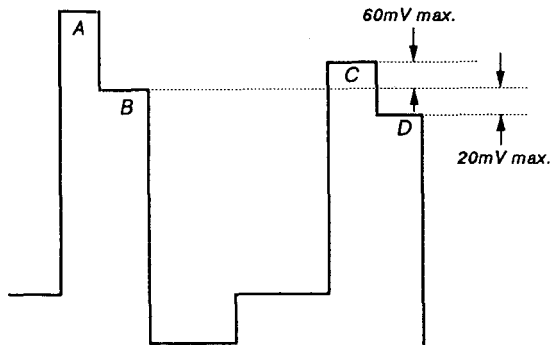

Fig. 18
- 4) Adjust **R-Y LEVEL PAL** so that the tops of the waveform line up as in the diagram below. (Fig. 18)